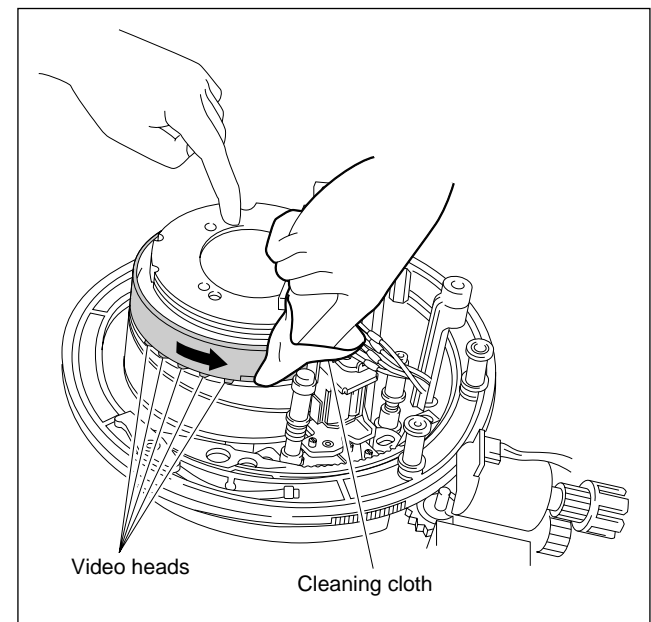

Figure 1. Cleaning of Drum
5. Clean the outer circumference and video heads of the upper drum (shaded portions in Figure 1). (Refer to Section 5-2-3 for the cleaning method.)